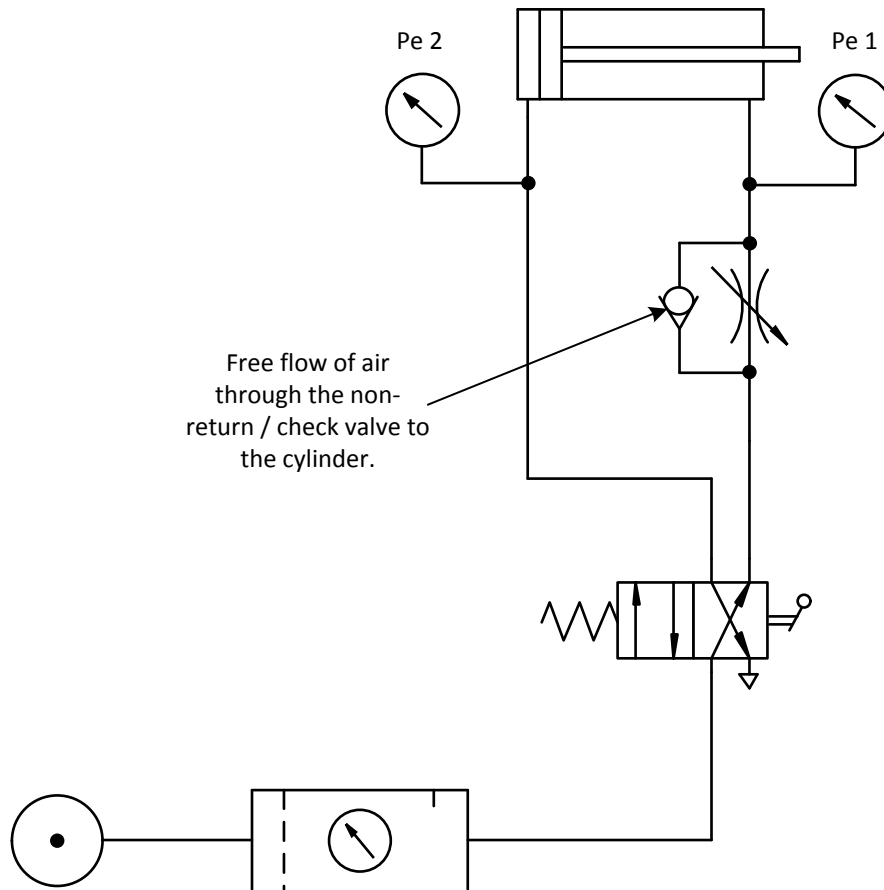

FIG 11.
- G. When the control valve is released to its stationary position, the supply air will flow through port 4 (B) of the directional control valve and the check / non return valve located in the flow control valve to the cylinder. The return air will flow to atmosphere through port 3 (R) in the directional control valve. With the directional control valve in selected position, the piston will move inwards. (Fig 11)